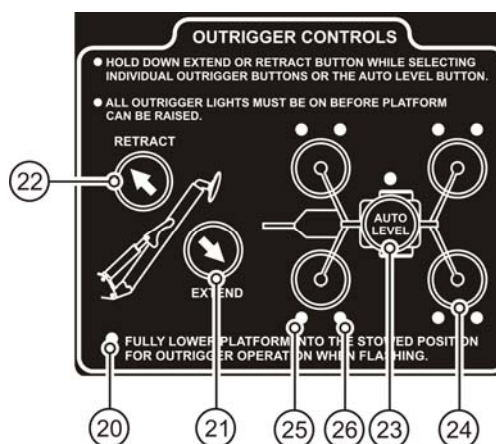

Figure 3-6. Outrigger Controls
- Extend the four outriggers individually, or for simultaneous extension use the **AUTO LEVEL (23)** button on the ground (lower) control panel. When the aerial work platform is leveled properly, a buzzer will sound, the two LEDs at each **OUTRIGGER (25 and 26)** button, and the LED at the **AUTO LEVEL (23)** button will be lit. See Figure 3-6.